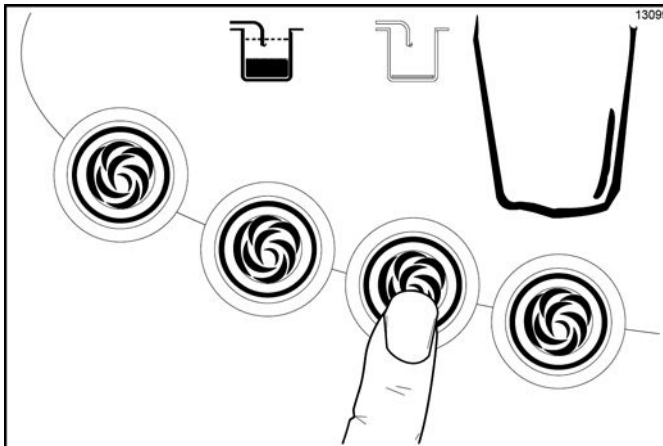

Figure 6-91
10. Press the corresponding Flavor Selection key . The Flavor Selection key should be illuminated, and the syrup pump for the selected flavor will start running at the maximum speed. (See Figure 6-91.)